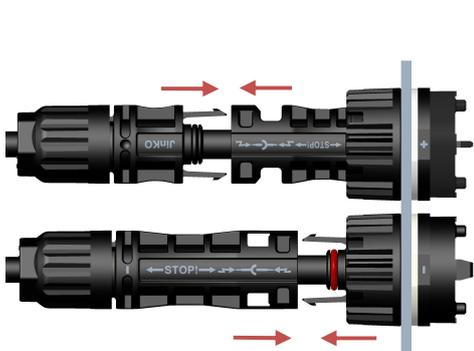
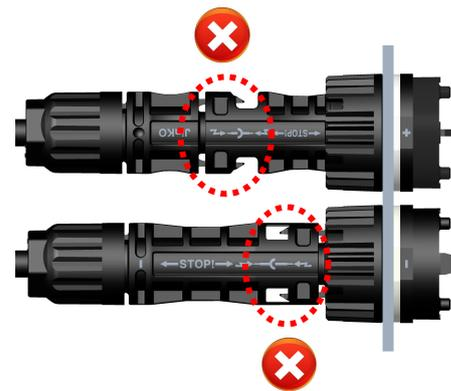

Figure 4
Figure 6
- ◇ 公母连接器插合：将公/母电缆连接器插入母/公面板连接器，直至其啮合。轻轻拉动，以检查是否啮合牢固（如图 4&5）。同时检查公母连接器有无对配不到位现象（如图 6）。
Insert the Male/ female cable connector into the female/ male panel connector until they engaged. And pull lightly to check correct engagement (Fig. 4&5).At the same time, check whether the male and female connectors are in place or not (Figure 6).